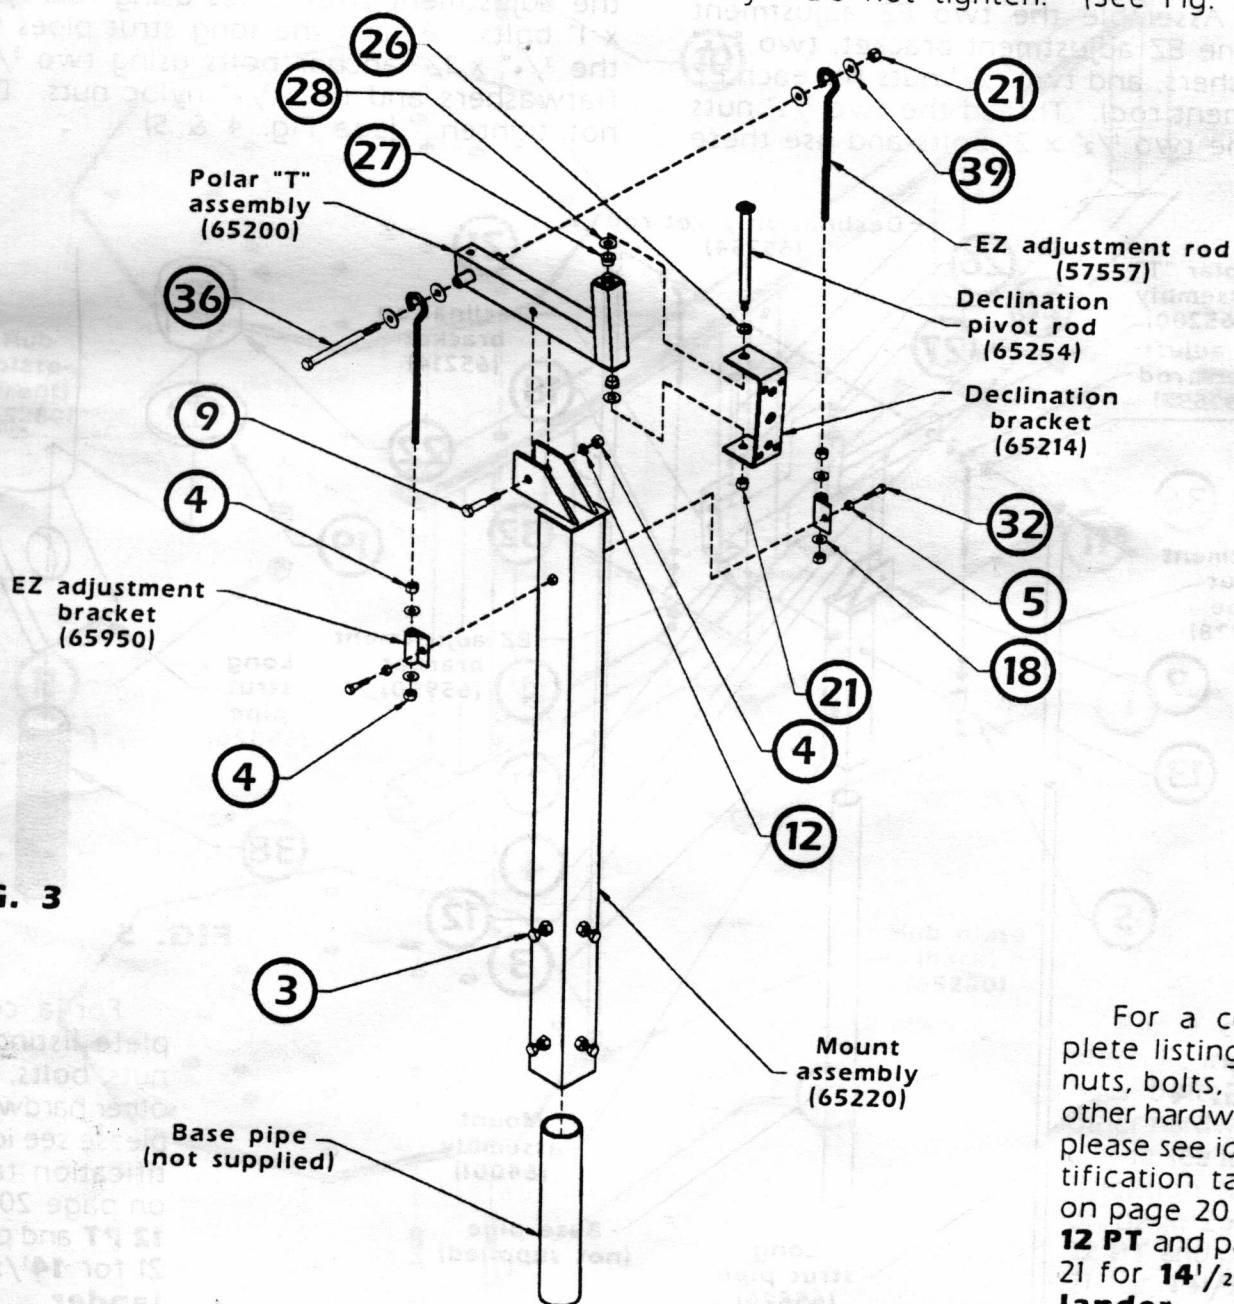

FIG. 3
1. Slide the mount assembly over the base pipe. Finger tighten the four $\frac{5}{8}$ " x $1\frac{1}{4}$ " bolts on the mount assembly onto the base pipe. (See Fig. 3)
2. Attach the preassembled declination/polar "T" assembly to the mount assembly using one $\frac{5}{8}$ " x $3\frac{1}{2}$ " bolt, one $\frac{5}{8}$ " lock washer, and one $\frac{5}{8}$ " nut. Do not tighten. (See Fig. 3)
3. Assemble the two EZ adjustment rods (one EZ adjustment bracket, two $\frac{5}{8}$ " flatwashers, and two $\frac{5}{8}$ " nuts for each EZ adjustment rod). Attach the assembled EZ adjustment rods to the polar "T" assembly using one $\frac{5}{8}$ " x $8\frac{1}{2}$ " bolt, four $\frac{5}{8}$ " USS flatwashers, and one $\frac{5}{8}$ " nyloc nut. Thread the two $\frac{1}{2}$ " nuts onto the two $\frac{1}{2}$ " x 2" bolts and use these to attach the assembled EZ adjustment rods (through the EZ adjustment brackets) to the mount assembly. Do not tighten. (See Fig. 3)